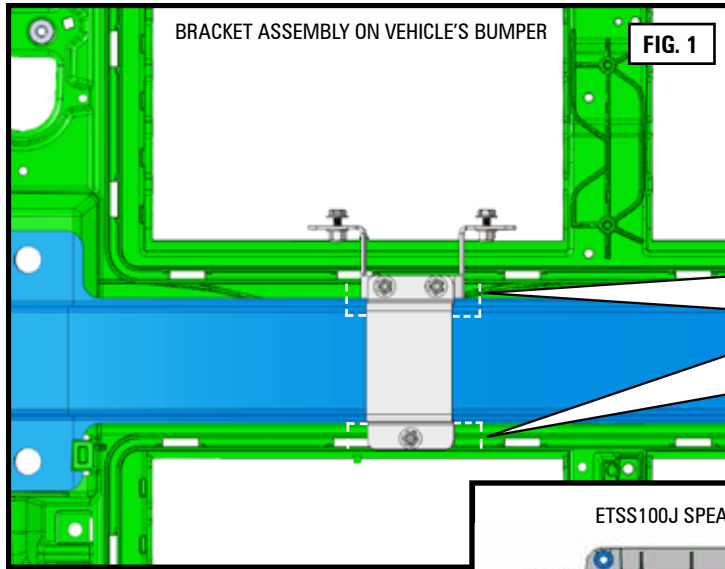

FIG. 1
- a. The bottom portion of the upper plastic, air flow shroud should be trimmed with cut out(s) approximately 3-1/4" by 3-1/2", or enough for fit of the speaker bracket in the desired location on the bumper once the upper plastic, air flow shroud is reinstalled with the speaker bracket(s), as seen in Fig. 1.
4. Attach the clamp bracket to the bumper using the supplied washers and locknuts. Tighten the locknuts to 10 ft.-lb., or until fully secure, as seen in Fig. 1.